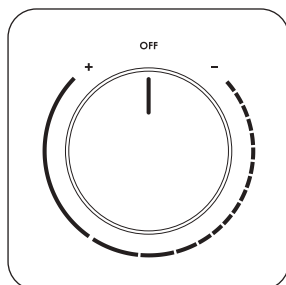

Fig. 10
2. Turn on the temperature control (**Fig. 10**), the red **POWER** indicator will light up.